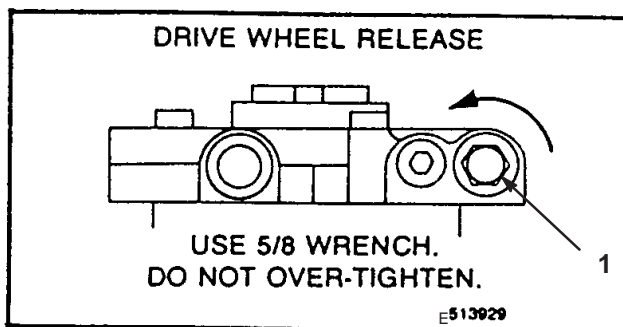

Figure 15
2. Rotate the by-pass valves counterclockwise 1 turn to push. This allows hydraulic fluid to by-pass the pump enabling the wheels to turn (Fig. 15).
1. Rotate the by-pass valves clockwise 1 turn to operate machine (Fig. 15).